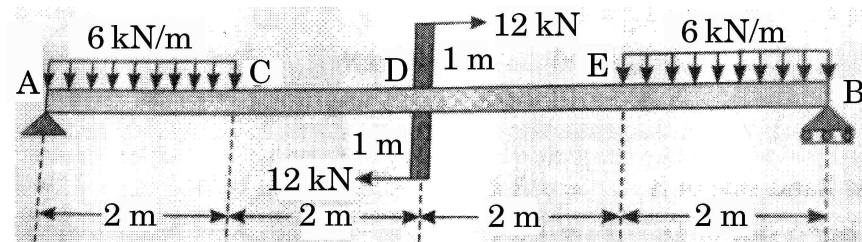

Fig. 2
- (b) Draw shear force and bending moment diagrams for a beam shown in Fig. 2. [6]